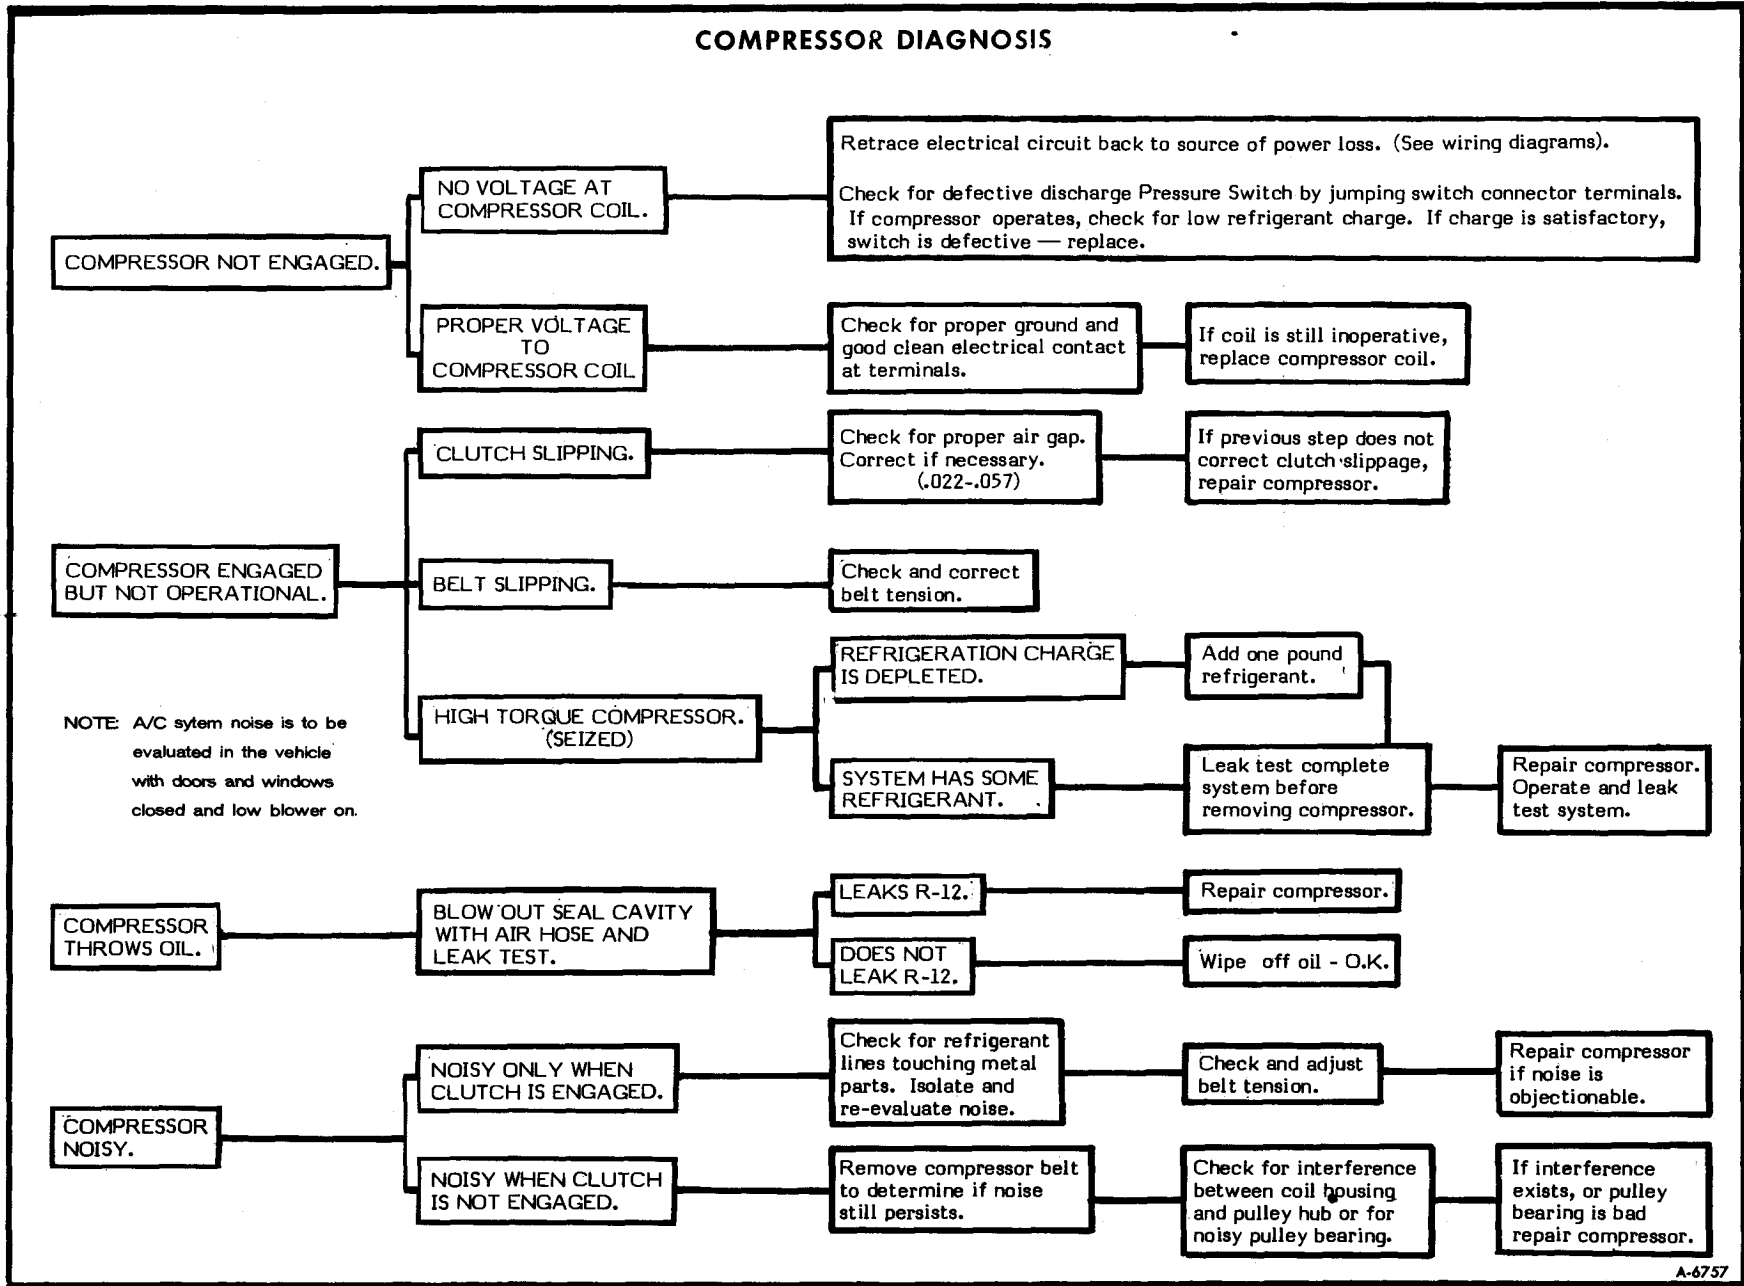

Figure 43—Compressor Diagnosis Chart
**NOTE:** Refer to Compressor Diagnosis Chart (figure 43) for diagnostic procedures for many compressor electrical problems.